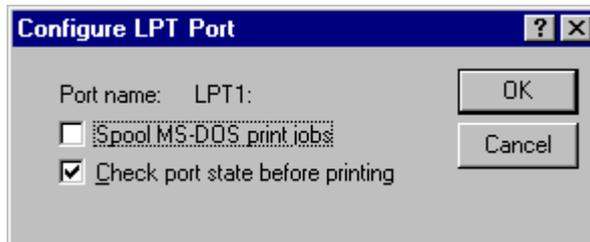

Fig. 2: **IMPORTANT!** Make sure that the first option box (“Spool MS-DOS print jobs”) is not activated.
- 4. Click on the PORT SETTINGS icon. This opens a window (Fig. 2).